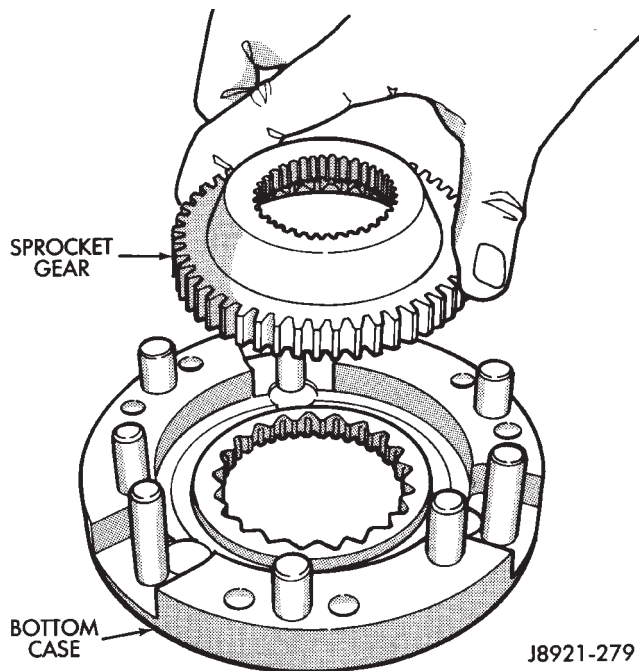

Fig. 58 Installing Differential Sprocket Gear
(25) Lubricate differential components with automatic transmission fluid.
(26) Install sprocket gear in differential bottom case (Fig. 58).